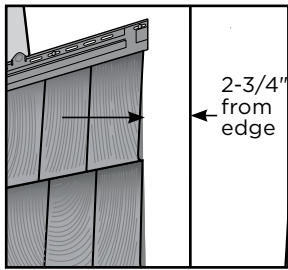

figure 10
1. Remove nail hem from cornerpost as shown in figure 10 and use as your starter. Install fastener through each nail hole.